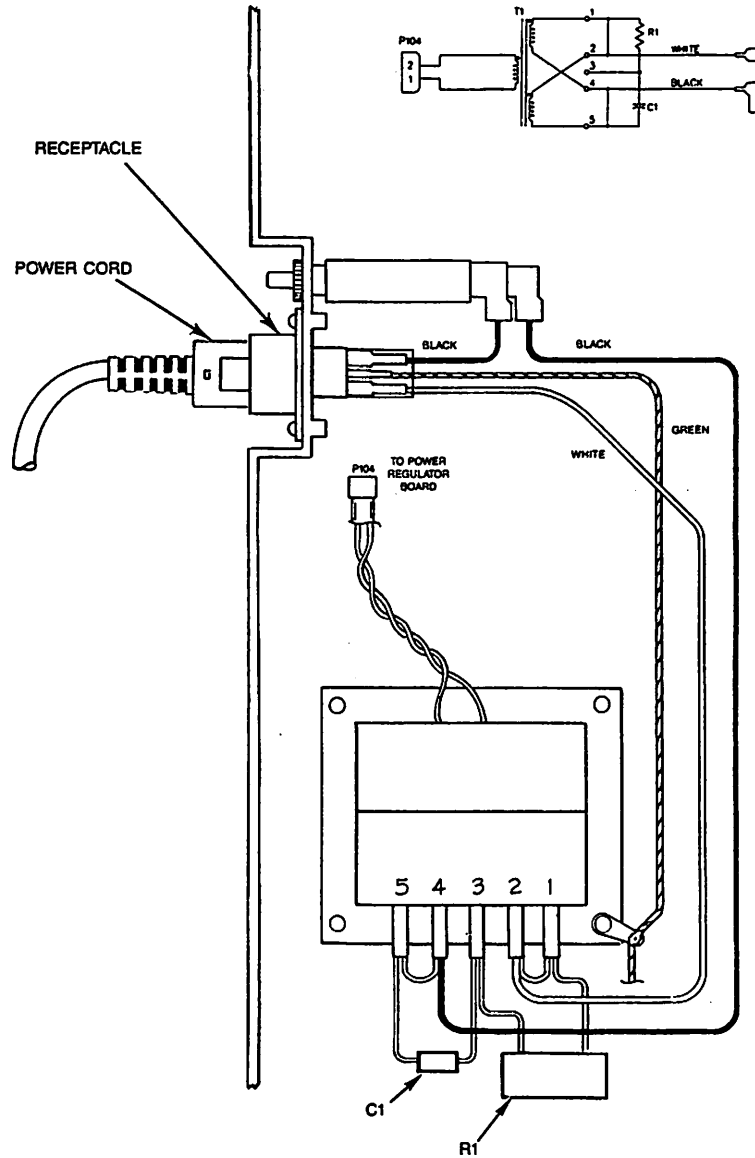

Figure 6-4. Transformer/CB/Cord Wiring Diagram
- b. Disconnect the transformer wiring harness from J104 on the power regulator board (item 16). (See figure 6-4.)
- d. Remove the two machine screws (items 212) and washers (items 116) from the transformer and move grounding harness (item 219) out of the way. Remove transformer shield (item 117).